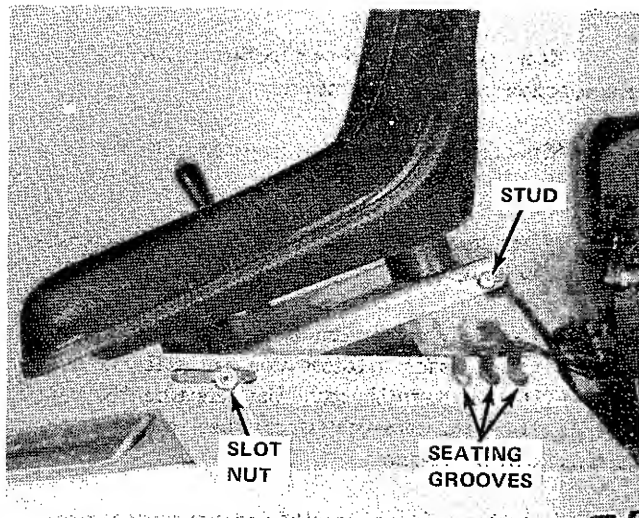

Figure 3-1. Seat Adjustment
A. The seat has three sitting positions (Figure 3-1). To adjust for a comfortable position, tilt the seat forward and slide studs in to desired groove. Slot nuts should be tightened to allow free movement of seat assembly.